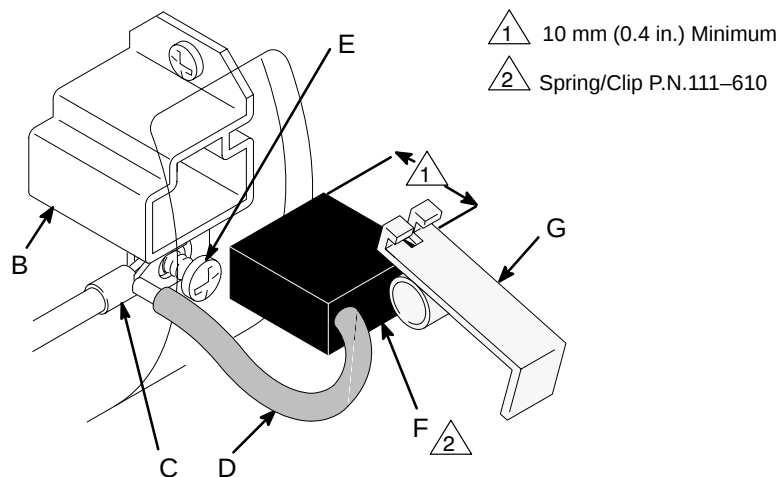

Fig. 16 01065
NOTE: Replace the brushes when they have worn to less than 10 mm. Refer to Fig. 16. Note that the brushes wear differently on each side of the motor, so check them both. Brush Repair Kit 235–727 is available.
2. Push in the spring clip (G) and release its hooks from the brush holder (B). Pull out the spring clip. See Fig. 16.
3. Loosen the brush lead terminal screw (E). Pull the brush lead away, but leave the motor lead terminal (C) in place. Remove and discard the brush (F). See Fig. 16.
6. Place a new brush (F) in the holder (B) so the lead is closer to the fan-end of the motor. Slide the terminal under the terminal screw (E) washer. Be sure the motor lead is still connected at the screw. Tighten the screw (E). See Fig. 16.